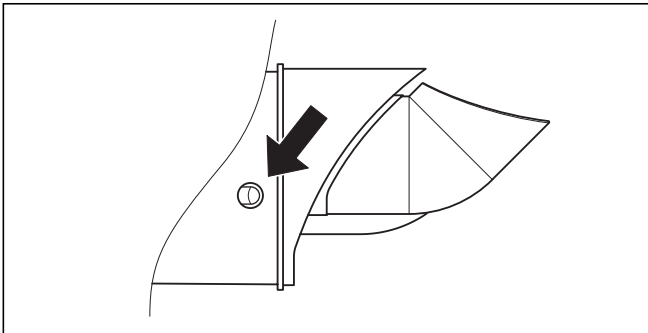

Fig. 2.45 Locking the catch
- Lock the two catches (fig. 2.45).